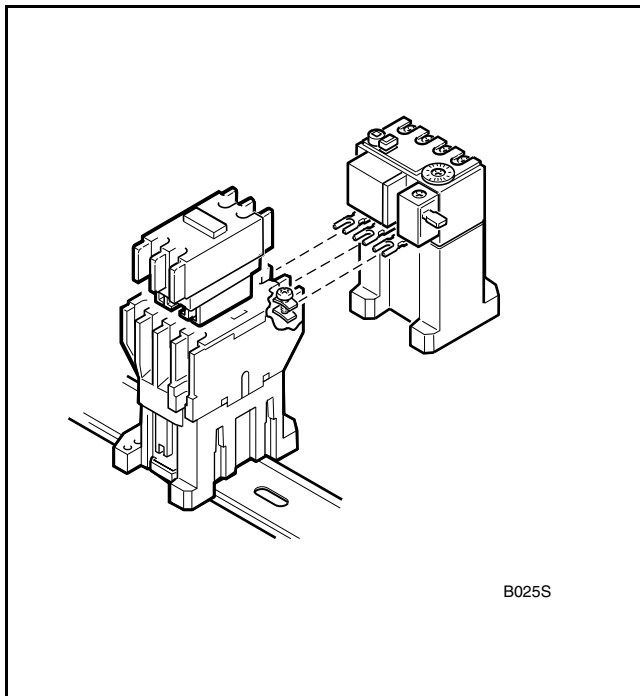

Figure 9
- d. Remove overload protector, refer to *Figure 9*.